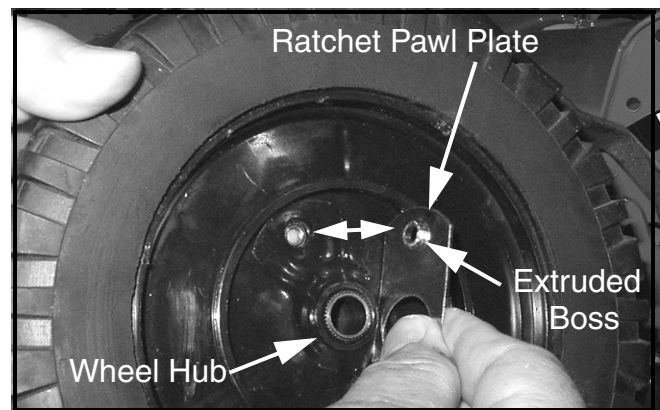

FIGURE 3
13. Holding the wheel in one hand with a finger keeping the weld nut in place, install a Ratchet Pawl Plate, Item 2, onto the wheel hub. Ensure that the extruded boss on the Ratchet Pawl Plate is in towards the wheel. See Figure 3.